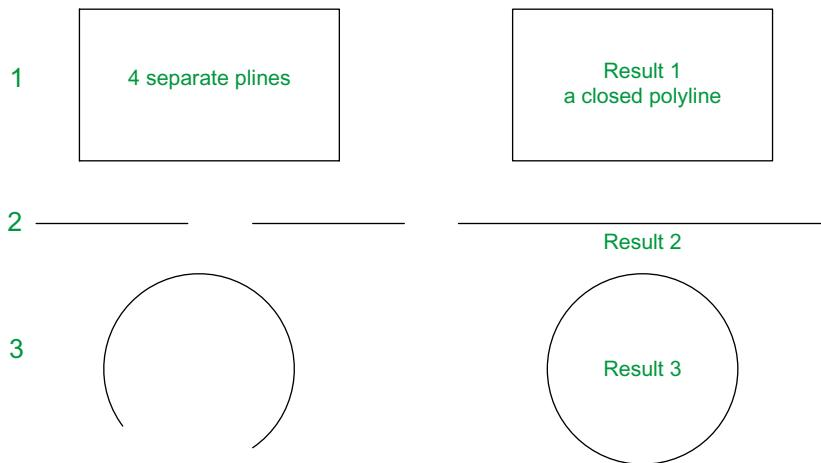

Fig. 5.38 Examples – Join
## Examples – Join (Fig. 5.38)
1. Construct a rectangle from four separate plines – drawing **1** of Fig. 5.38; construct two lines – drawing **2** of Fig. 5.38 and an arc – drawing **3** of Fig. 5.38.
The results are shown in Fig. 5.38.